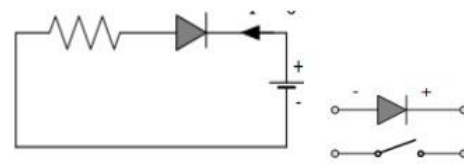

Fig. 2: Reverse Bias Condition
1. Connect the circuit as shown in Fig.2 (Point contact diode in series with micro ammeter).